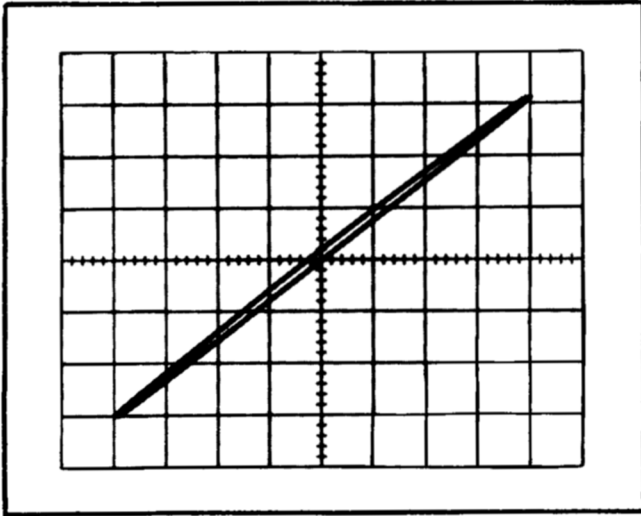
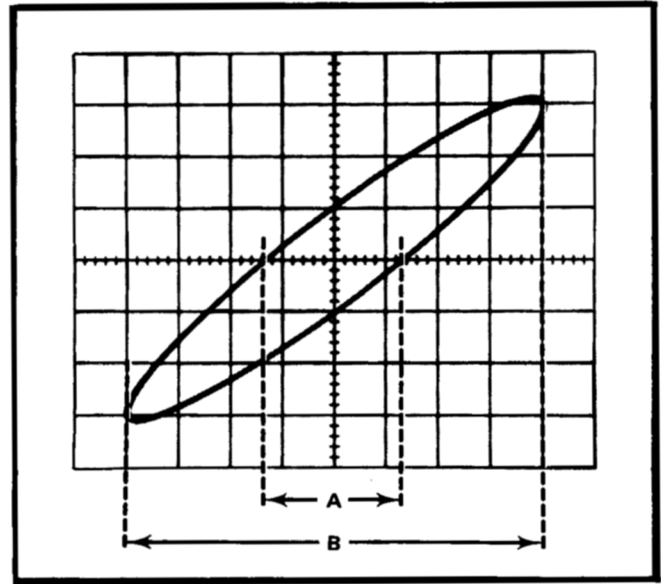

Fig. 2-16. X-Y display showing phase shift.
Fig. 2-17. Phase-difference measurement from an X-Y display.
3. Connect the same signal to both EXT VOLTS IN connectors. Use the Amplifier VARIABLE controls to obtain a display less than 8 divisions vertically and less than 10 divisions horizontally. Measure and record the inherent phase shift for the oscilloscope system being used. See Fig. 2-16.
5. Center the display in relation to the vertical graticule line. Measure the distances A and B as shown in Fig. 2-17. Distance A is the horizontal measurement between the two points where the trace crosses the center horizontal reference line. Distance B is the horizontal width of the display.
Example. The phase angle shown in Fig. 2-16 is approximately 2° and in Fig. 2-17 the phase angle is 18°.